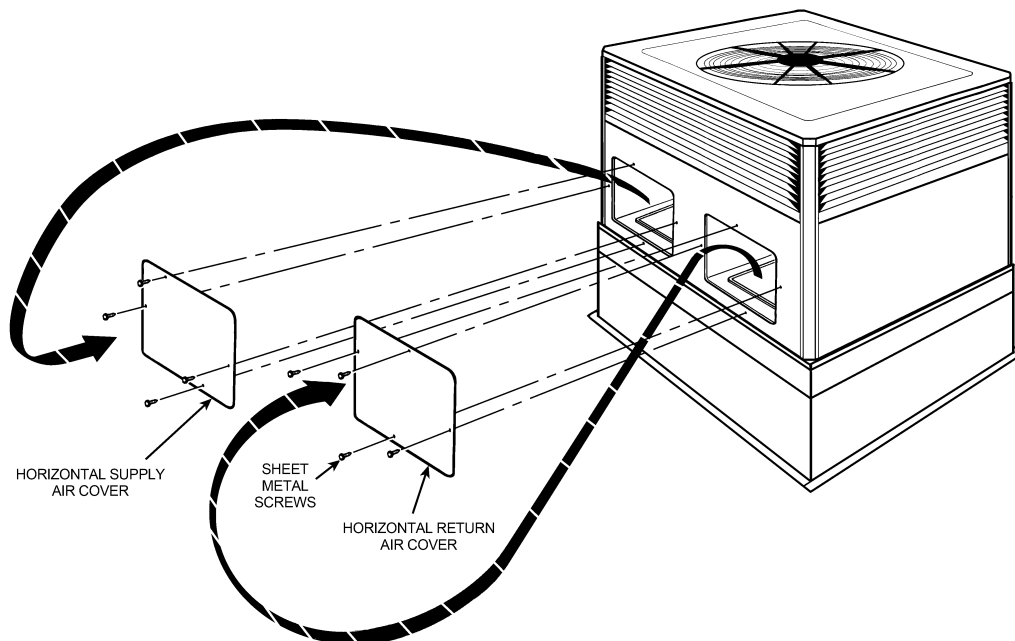

Figure 14. Converting Horizontal to Down Airflow
1. Remove the three (3) sheet metal screws securing the supply air cover and the four (4) sheet metal screws securing the return air cover from the base of the unit. Remove the covers from the base. See Figure 14, page 18.